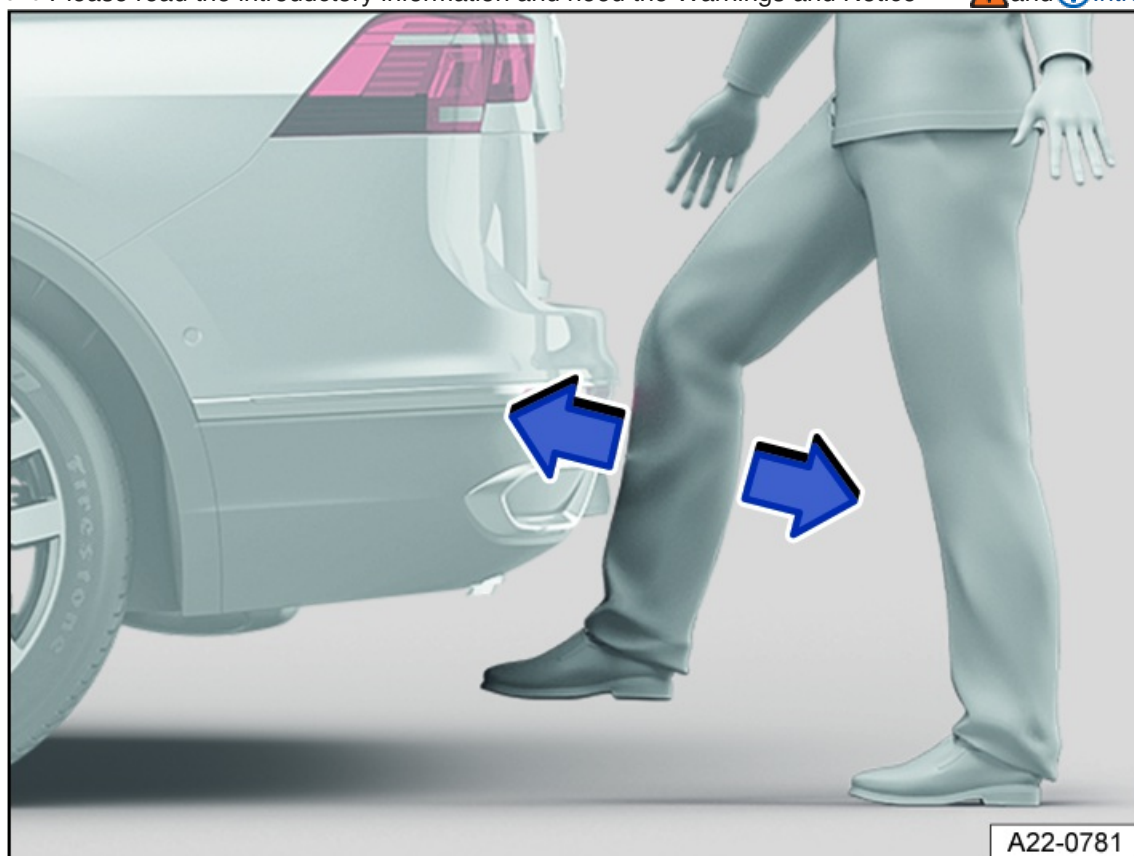

Fig. 50 General example of the sensor-controlled luggage compartment opener (Easy Open).
2. Quickly swing the lower part of your leg close to the bumper *fig. 50*.